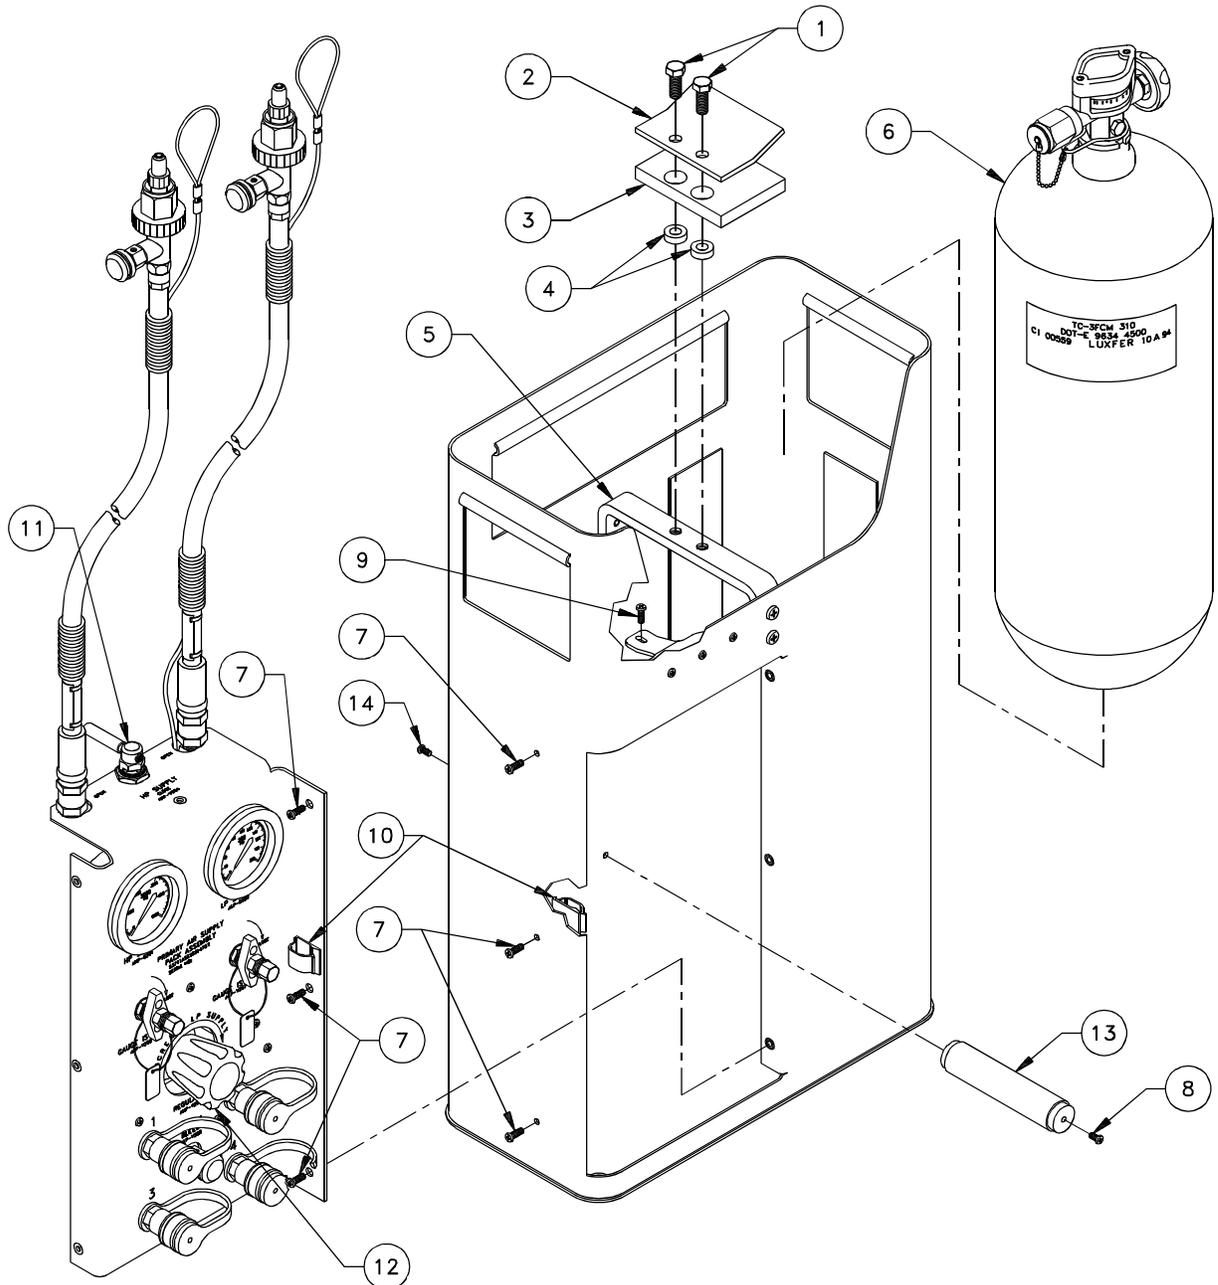

Figure 6-1. Exploded View of PASP
6.5.2.1 Control Panel Assembly (CPA) Removal and Replacement (Figure 6-1).